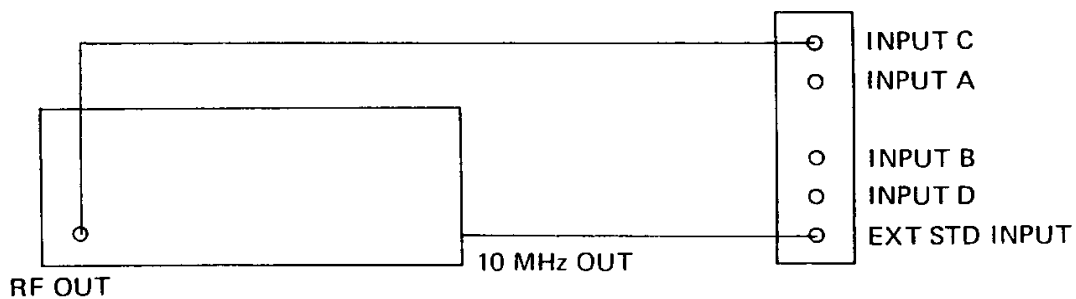

Figure 4-5, Input C Test Configuration
4.1.8.1.2 Connect the Signal Generator to the counter as shown in **Figure 4-5**.